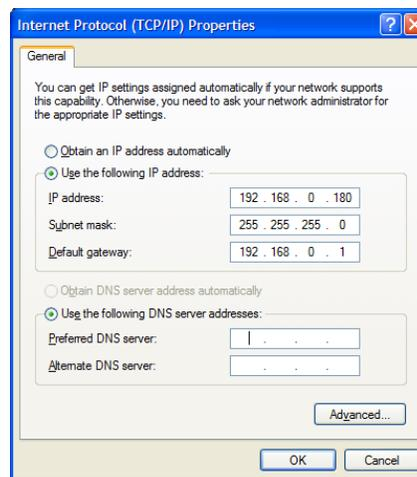

Figure 2-47: IP Address Settings
3. Configure the IP Address settings as shown in Figure 2-47. Note that if this is the second E2010 unit in a two E2010 configuration, you must set the IP address to **192.168.0.190** instead.